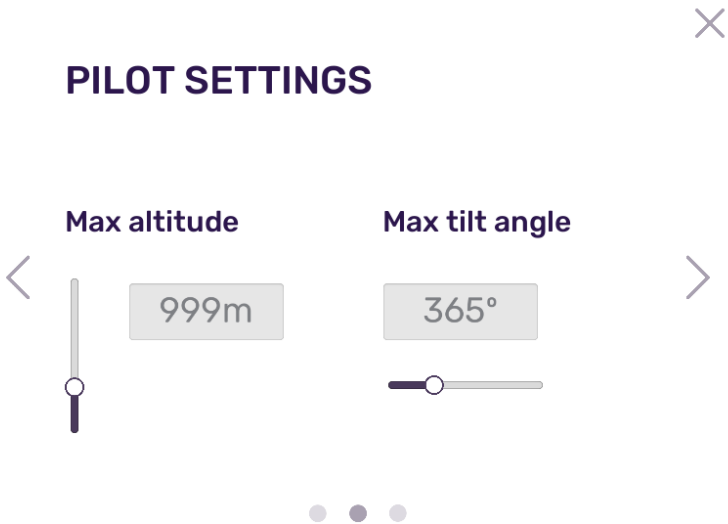

Figure 7. Pilot settings window
2. **Pilot settings** (see Figure 7). This shows the restrictions on the drone manoeuvres while in manual flight mode. These restrictions control the maximum flying height in metres and the maximum tilt angle. Note that when the drone is flown in automatic mode, these restrictions also apply.